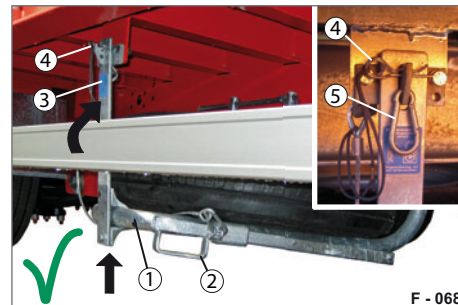

Fig. 89 Spare wheel storage secured
- ▶ Secure the safety latch (Fig. 89/3) with the spring pin (Fig. 89/4) and, if necessary, also with a padlock or spring hook. The spare wheel storage is secured.